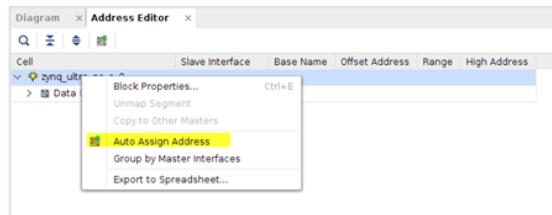

Figure 26: Address Editor
- To avoid receiving a warning about an un-assigned address click on the "Address Editor" tab (Figure 26) and select "Auto Assign Address"